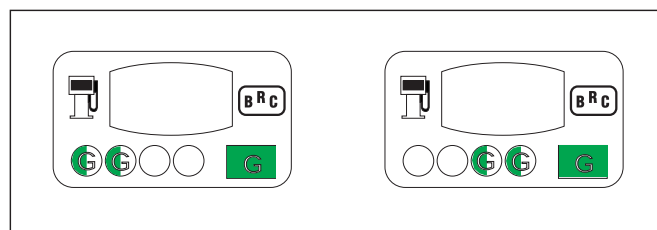

Fig. 26
- **After approx. 5 seconds the TWO-COLOURED LED turns on fixed green** (beginning of the r.p.m. signal acquisition phase) (fig. 26).